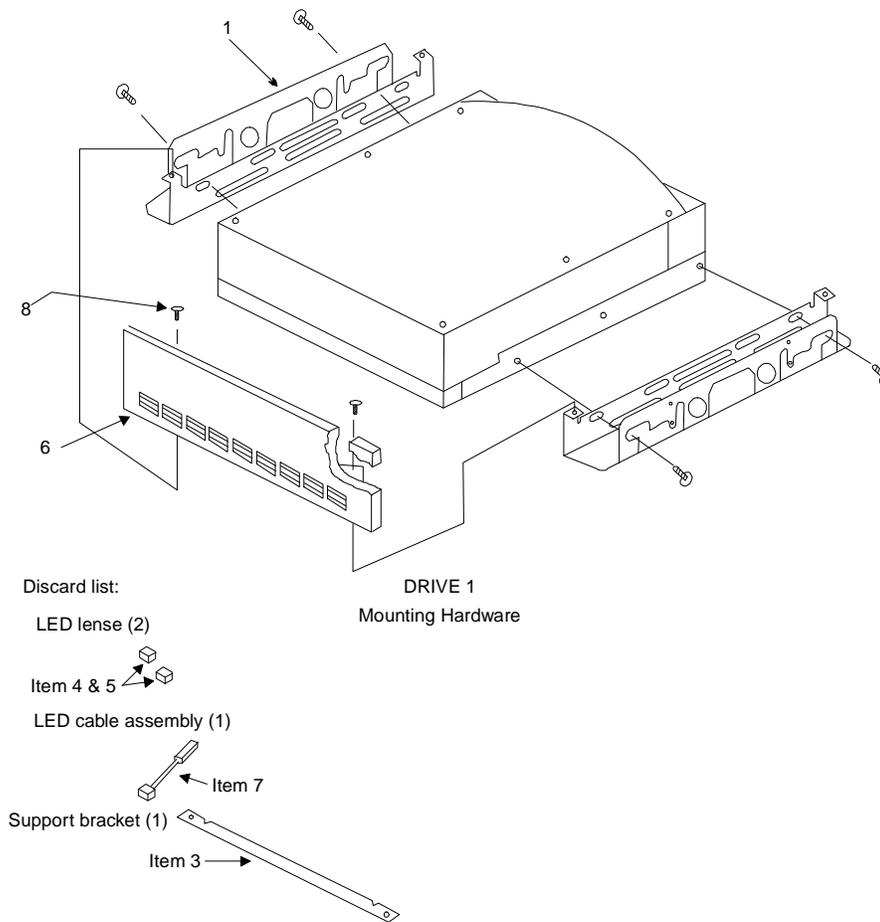

Figure 10-9. Universal Installation Kit
10. Assemble the installation kit according to directions on the box (see Figure 10-9).